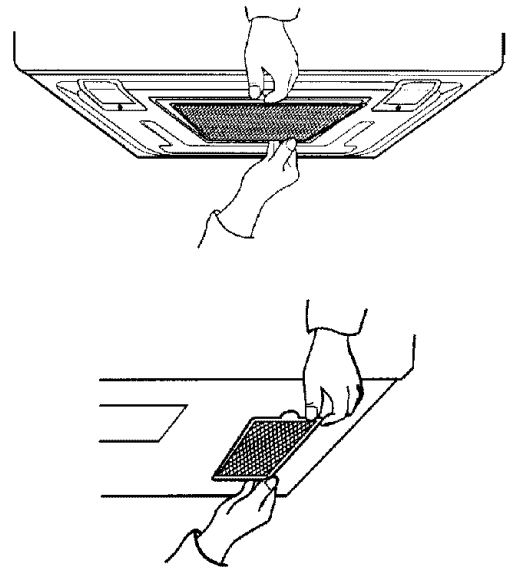

Figure 35
8. Grasp filter screen with one hand holding the ring and the other hand holding the opposite end. Insert the end of the filter screen without ring into the opening and slide towards the side of the microwave oven. Insert ring end of filter screen into the opening and slide entire screen towards the center of the microwave until screen is securely in position. Repeat for other filter screen. See Figure 35.